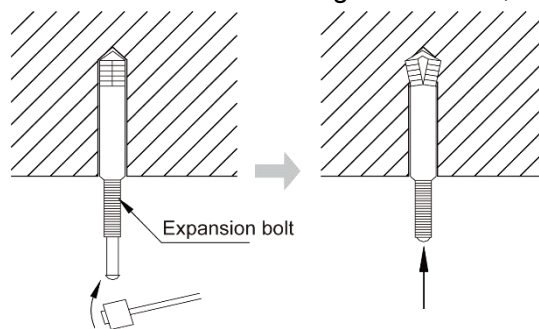

Fig 4.1.5
2) Insert the M10 expansion bolt into the hole and then knock the nail into the bolt, as shown in fig 4.1.5, and then remove the paper pattern.